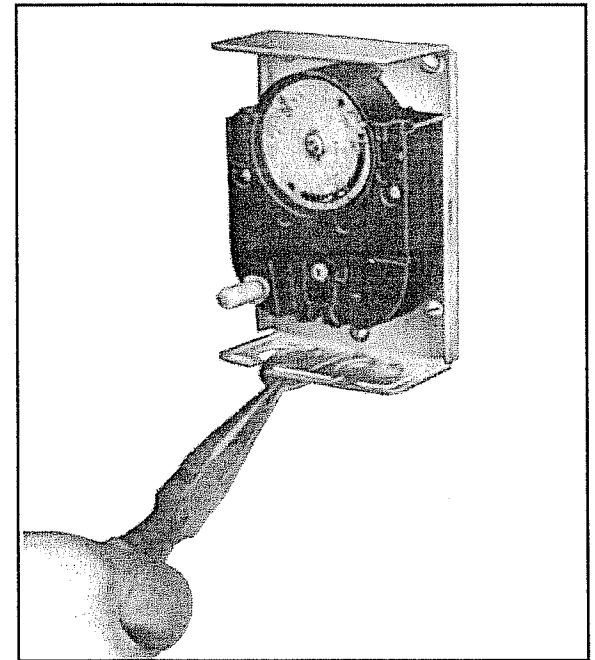

Fig. 4—Removing slotted knockouts.
1. To remove the slotted knockout(s) use a needlenose pliers as shown in Fig. 4 and pull straight down.